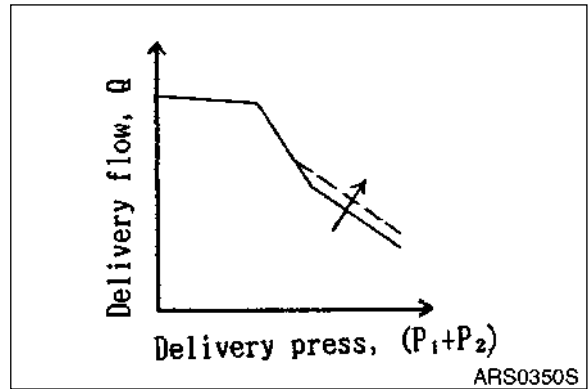

Figure 29
Adjust it by loosening the hexagon nut (801) and by tightening (or loosening) the adjusting screw C1 (925). Tightening the screw increases the flow and then the input horsepower as shown in the Figure 29.